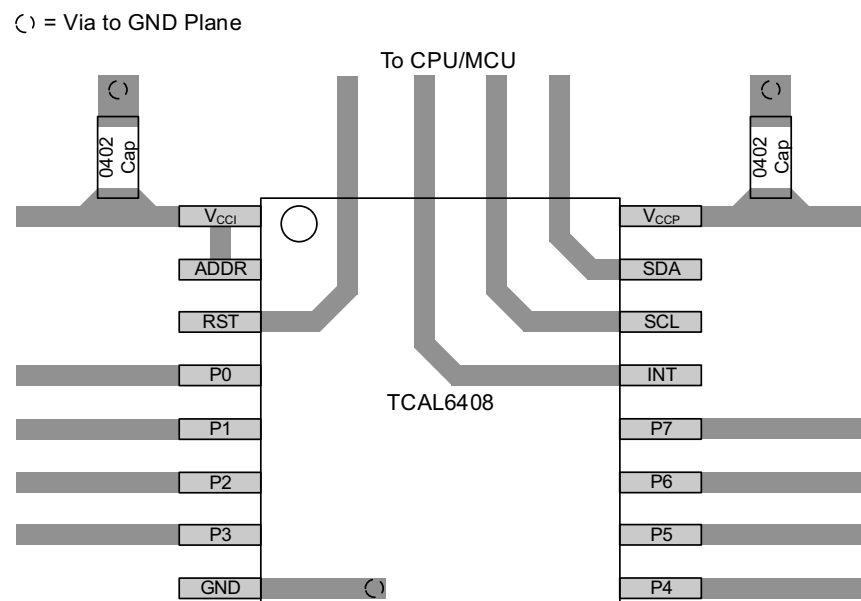

Figure 8-10. TCAL6408 Layout
It is a best practice to avoid right angles in signal traces, to fan out signal traces away from each other upon leaving the vicinity of an integrated circuit (IC), and to use thicker trace widths to carry higher amounts of current that commonly pass through power and ground traces in all PCB layouts. Bypass and decoupling capacitors are commonly used to control the voltage on the supply pins. Using a larger capacitor provides additional power in the event of a short power supply glitch, and using a smaller capacitor filters out high-frequency ripple. These capacitors should be placed as close to the TCAL6408 as possible. Figure 8-10 shows these best practices.
For the layout example provided in Figure 8-10, it is possible to fabricate a PCB with only 2 layers by using the top layer for signal routing and the bottom layer as a split plane for power and ground (GND). However, a 4 layer board is preferable for boards with higher density signal routing. On a 4 layer PCB, it is common to route signals on the top and bottom layer, dedicate one internal layer to a ground plane, and dedicate the other internal layer to a power plane. In a board layout using planes or split planes for power and ground, vias are placed directly next to the surface mount component pad which needs to attach to power or GND and the via is connected electrically to the internal layer or the other side of the board. Vias are also used when a signal trace needs to be routed to the opposite side of the board, but this technique is not demonstrated in Figure 8-10.